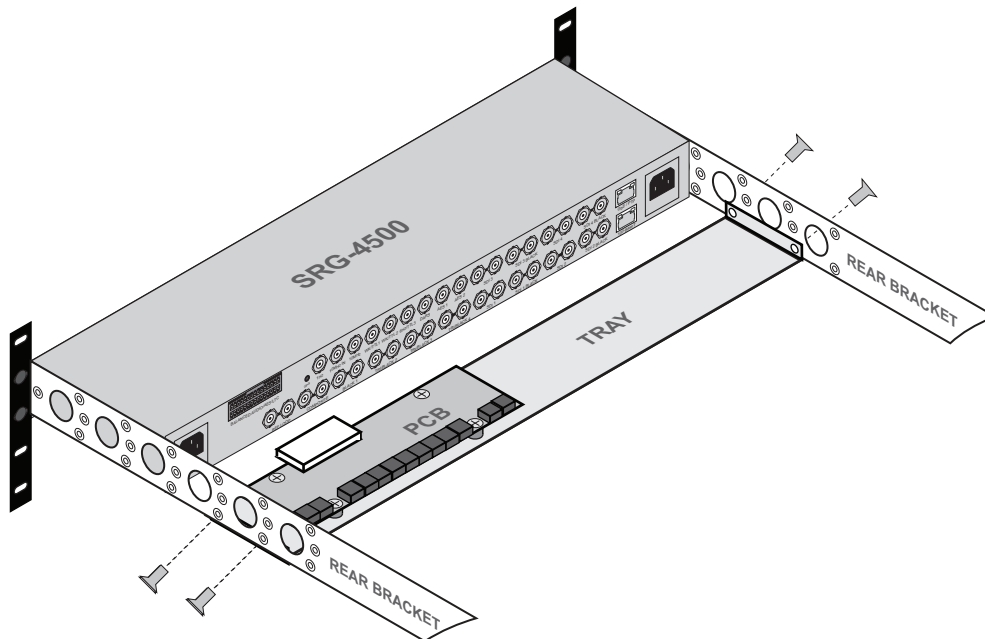

Figure 13.2 Installing the Breakout PCB and Tray to the Rear Brackets
1. Position the Breakout PCB and Tray behind the SRG-4500 in the rack frame (**Figure 13.2**) while ensuring to:
2. Use the 4 provided M3 5mm screws to affix the Breakout PCB and Tray to the Rear Brackets of the SRG-4500. Refer to **Figure 13.2**.